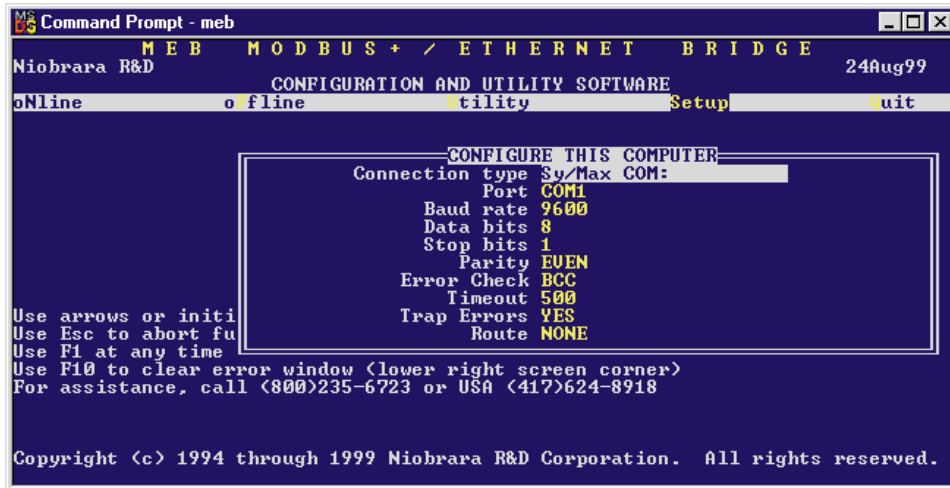

Figure 2-2 MEBSW SY/MAX Configuration Screen
- 5 Press S for Serial communication. The screen should appear as in Figure 2-2.